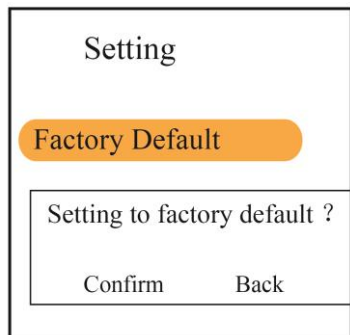

Figure 4.10H Default setting
- Default setting: Enter into the factory default setting, as shown in figure 4.10H.